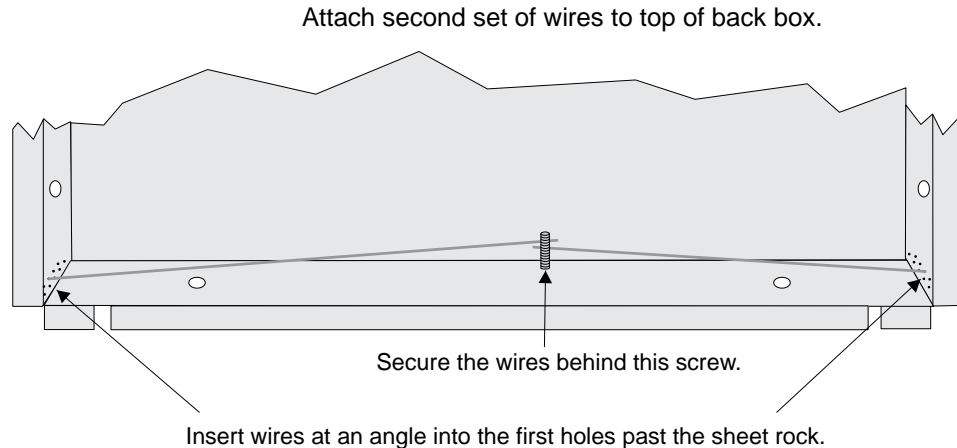

Figure 4.13 Flush Mounting the Back Box
3. Fit the annunciator back box into the hole and stabilize with mounting wires. Angle the mounting wires into the first hole past the sheet rock. Secure the wires behind the screws as shown in Figure 4.13. When all four wires are in place, the back box should fit snugly into the hole in the sheet rock.